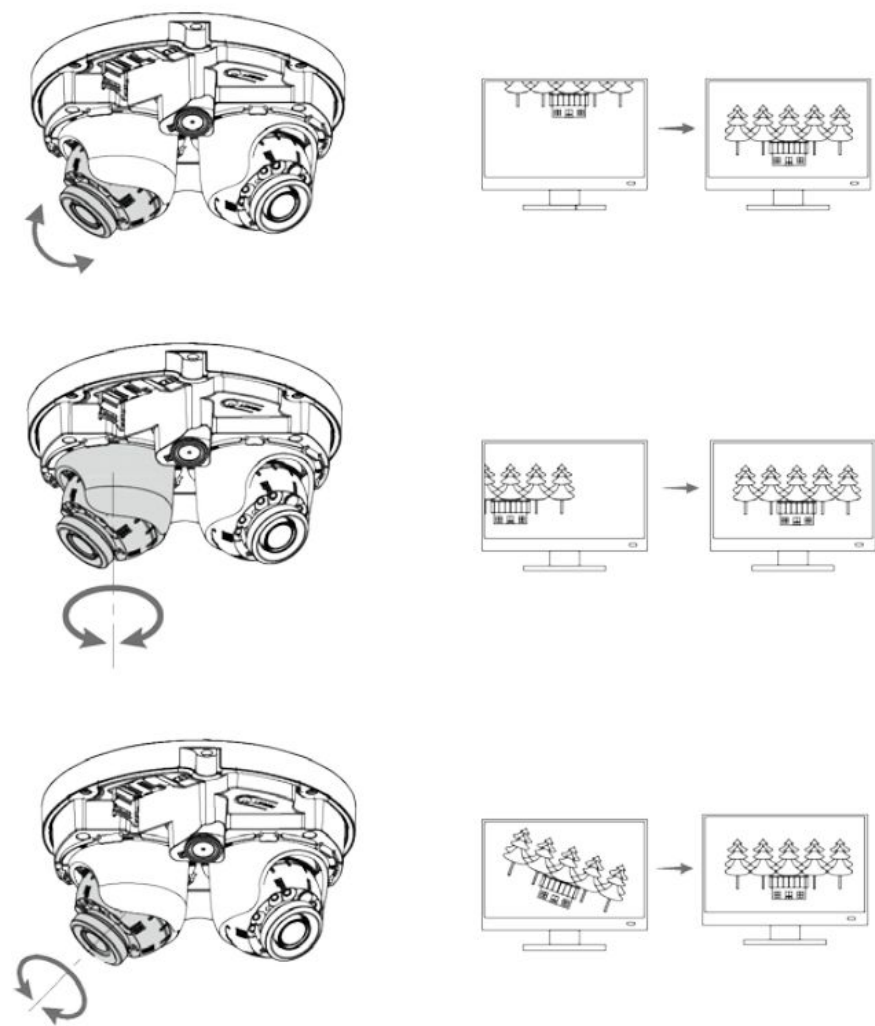

Figure 2-4
**Step 5:** Manually rotate the lens and adjust the horizontal rotation in the direction of monitoring. See Figure 2-4 to adjust lens angle.